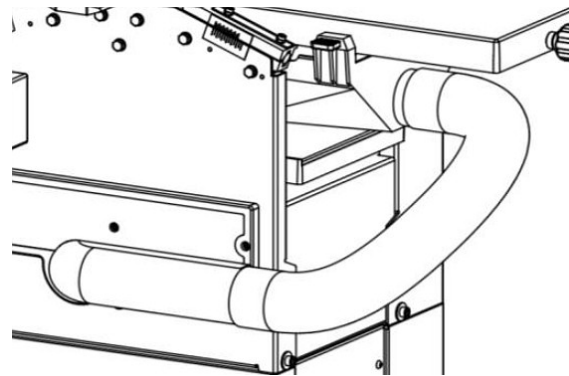

Fig. 18: Connect suction hose
Step 2: Use a hose clamp to connect the suction hose to the suction socket of the machine frame and the suction socket of the planer table (Fig. 18).